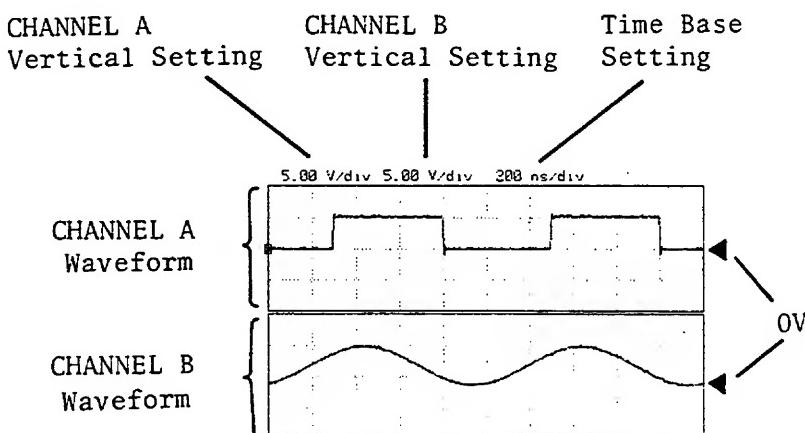

Figure 4-1. Oscilloscope Setup
The troubleshooting aids provide information to help you troubleshoot problems in the HP 4284A. Usually the troubleshooting aids consists of a list of jumpers, a list of test points, and troubleshooting information. The jumper list shows the strapping configuration for each jumper. The test point list gives a description of the signal at each test point. The troubleshooting information includes waveforms for troubleshooting the board, and the measurement setup for viewing the waveform is listed next to the waveform figure, refer to Figure 4-1.
- (1) Set the oscilloscope inputs to DC coupled ($1 \text{ M}\Omega$).
- (2) The settings (using a 1:1 probe) for channel A and B, and the time base setting are displayed with the waveform, refer to Figure 4-1. When a 10:1 divider probe is used, the channel A and B settings must be multiplied by 10.